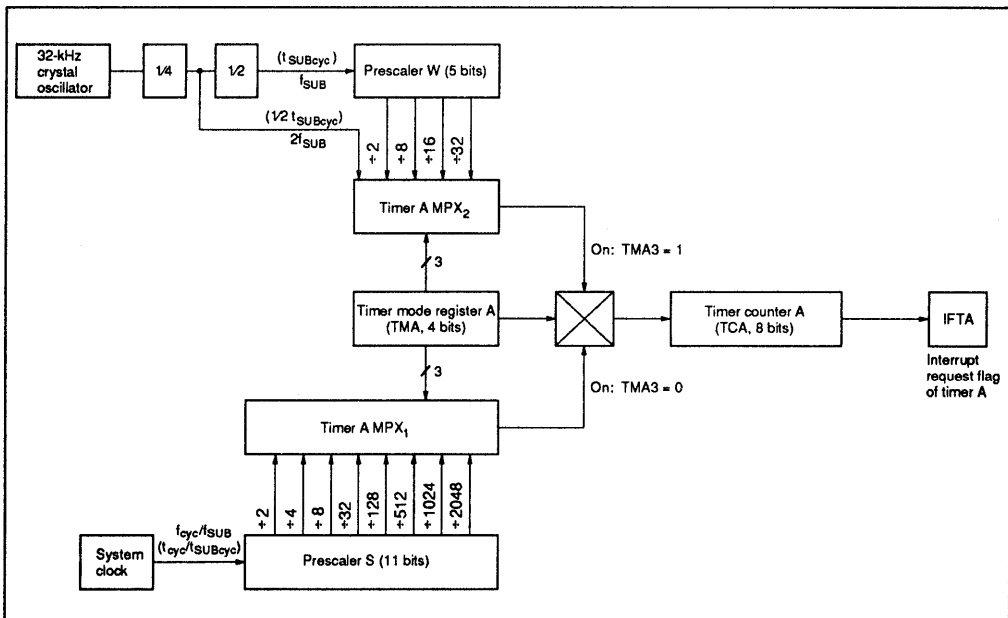

Figure 14 Block Diagram of Timer A
The MCU has two prescalers (S and W) and three timer/counters (A, B, and C). Figures 14 and 15 show their diagrams.
**Timer A:** Eight-bit timer that can be used as a clock time-base (figure 14). It is initialized to \$00 and incremented at each clock input. If an input clock is applied to timer A after it has reached \$FF, an overflow that sets the timer A interrupt request flag (IFTA: \$001, 2) is generated, and timer A restarts from \$00.